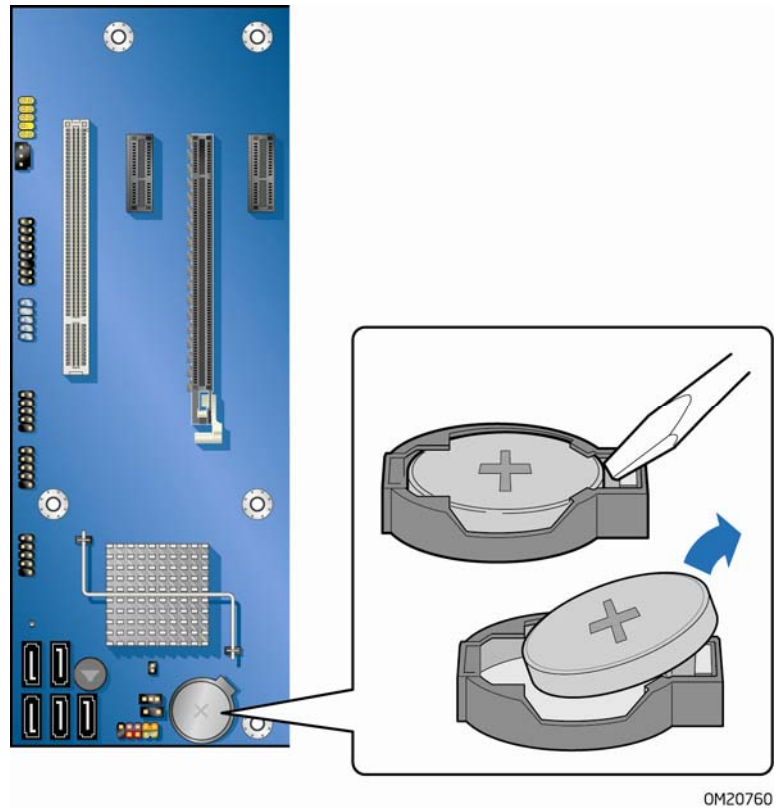

Figure 26. Removing the Battery
When the voltage drops below a certain level, the BIOS Setup program settings stored in CMOS RAM (for example, the date and time) might not be accurate. Replace the battery with an equivalent one. Figure 26 on page 59 shows the location of the battery.
4. Locate the battery on the board (see Figure 26).